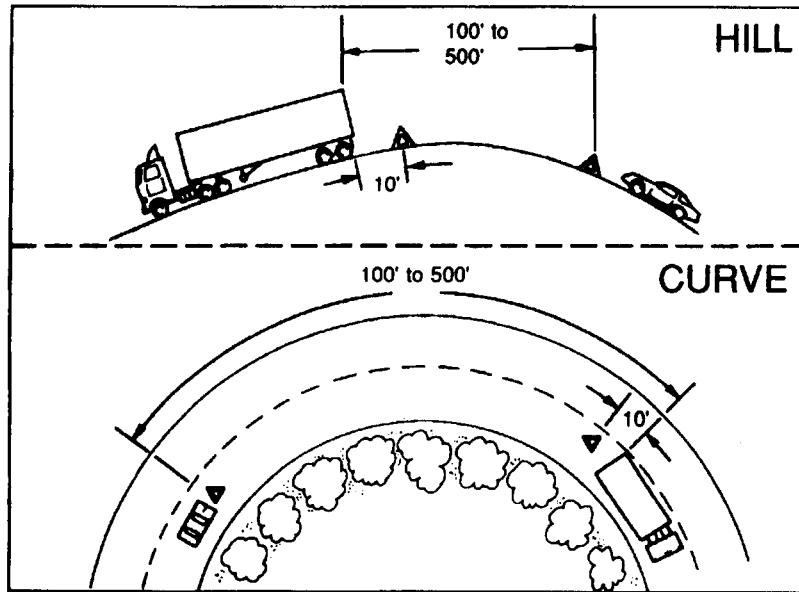

Figure 2-2. Warning device placement: obstructed view
- Back beyond any hill, curve, or other obstruction that keeps other drivers from seeing the vehicle within 500 feet (Figure 2-2, page 2-8).